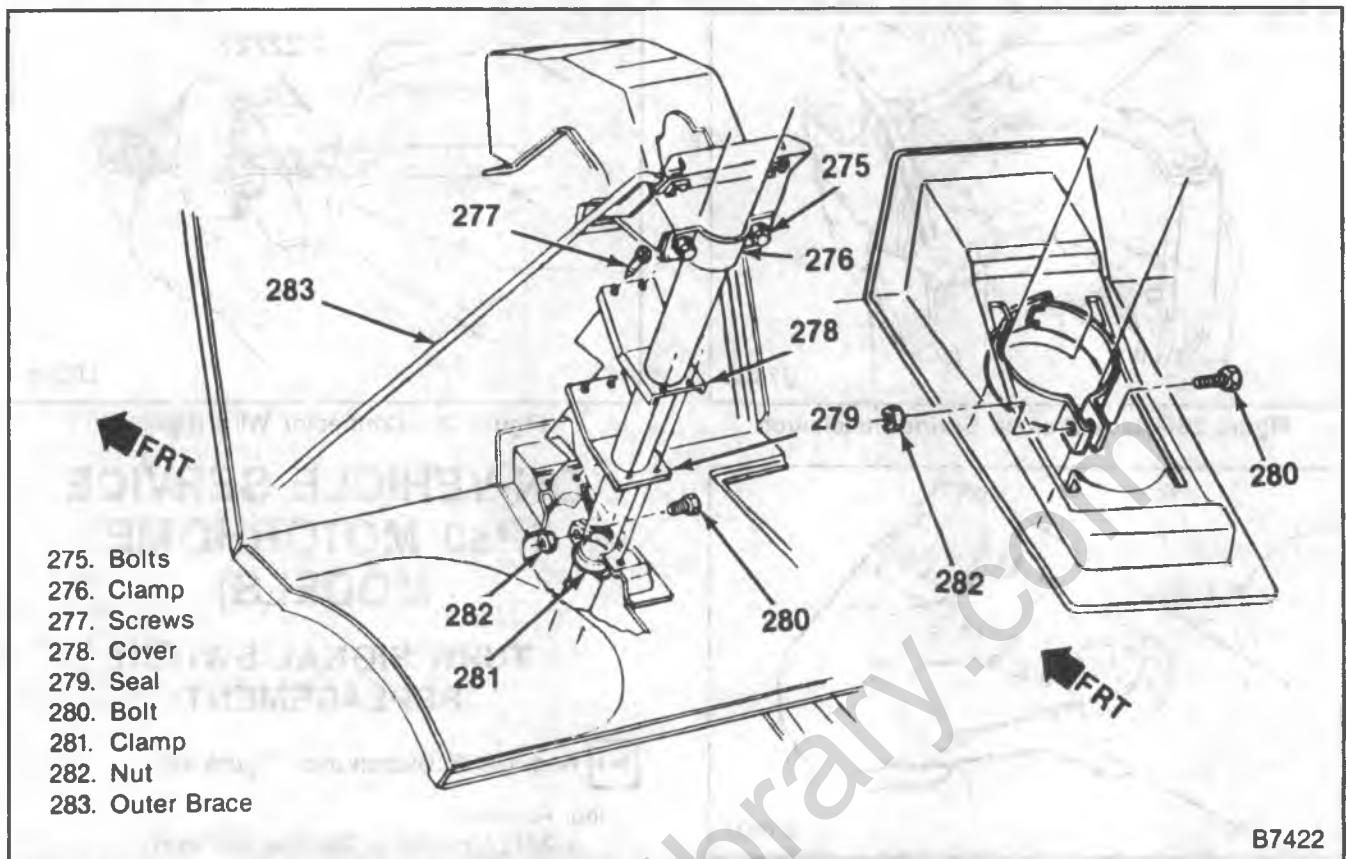

Figure 30—Steering Column Installation—P-Model except Motorhome
Remove or Disconnect (Figure 30)
4. Nut (282), bolt (280) and clamp (281). Slide the clamp down the column.
5. Screws (277) from the cover (278) and seal (279). Slide the cover and seal up the column.
8. Bolts (275) and clamp (276) from the column support bracket.
9. Bolt, nut and outer brace (283) from the column support bracket.
**Install or Connect (Figure 30)**
- Align the seal (279) and cover (278) with the floor and dash panel assembly.
3. Clamp (281), bolt (280) and nut (282). Position the clamp as shown in figure 30.
4. Clamp (276) and bolt (275).
5. Seal (279), cover (278) and screws (277) to the dash panel assembly.
6. Outer brace (283), bolt and nut to the column support bracket.